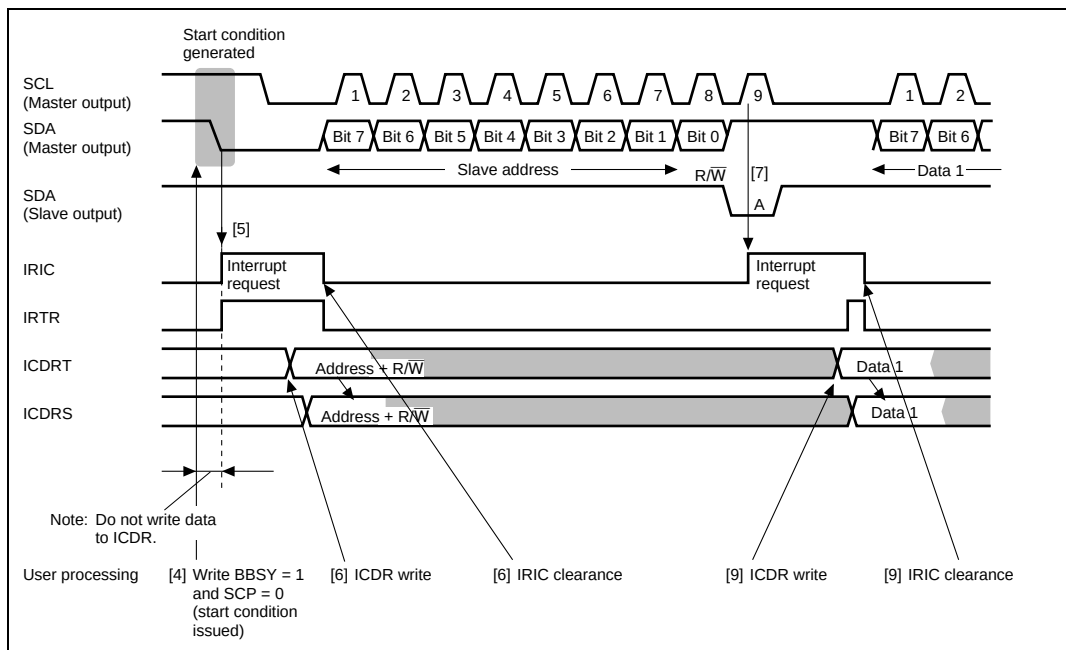

Figure 14.8 Example of Master Transmit Mode Operation Timing (MLS = WAIT = 0)
6. After the start condition is detected, write the data (slave address + R/W) to ICDR. With the I²C bus format (when the FS bit in SAR or the FSX bit in SARX is 0), the first frame data following the start condition indicates the 7-bit slave address and transmit/receive direction (R/ $\bar{W}$). As indicating the end of the transfer, and so the IRIC flag is cleared to 0. After writing ICDR, clear IRIC continuously not to execute other interrupt handling routine. If one frame of data has been transmitted before the IRIC clearing, it can not be determine the end of transmission. The master device sequentially sends the transmission clock and the data written to ICDR using the timing shown in figure 14.8. The selected slave device (i.e. the slave device with the matching slave address) drives SDA low at the 9th transmit clock pulse and returns an acknowledge signal.